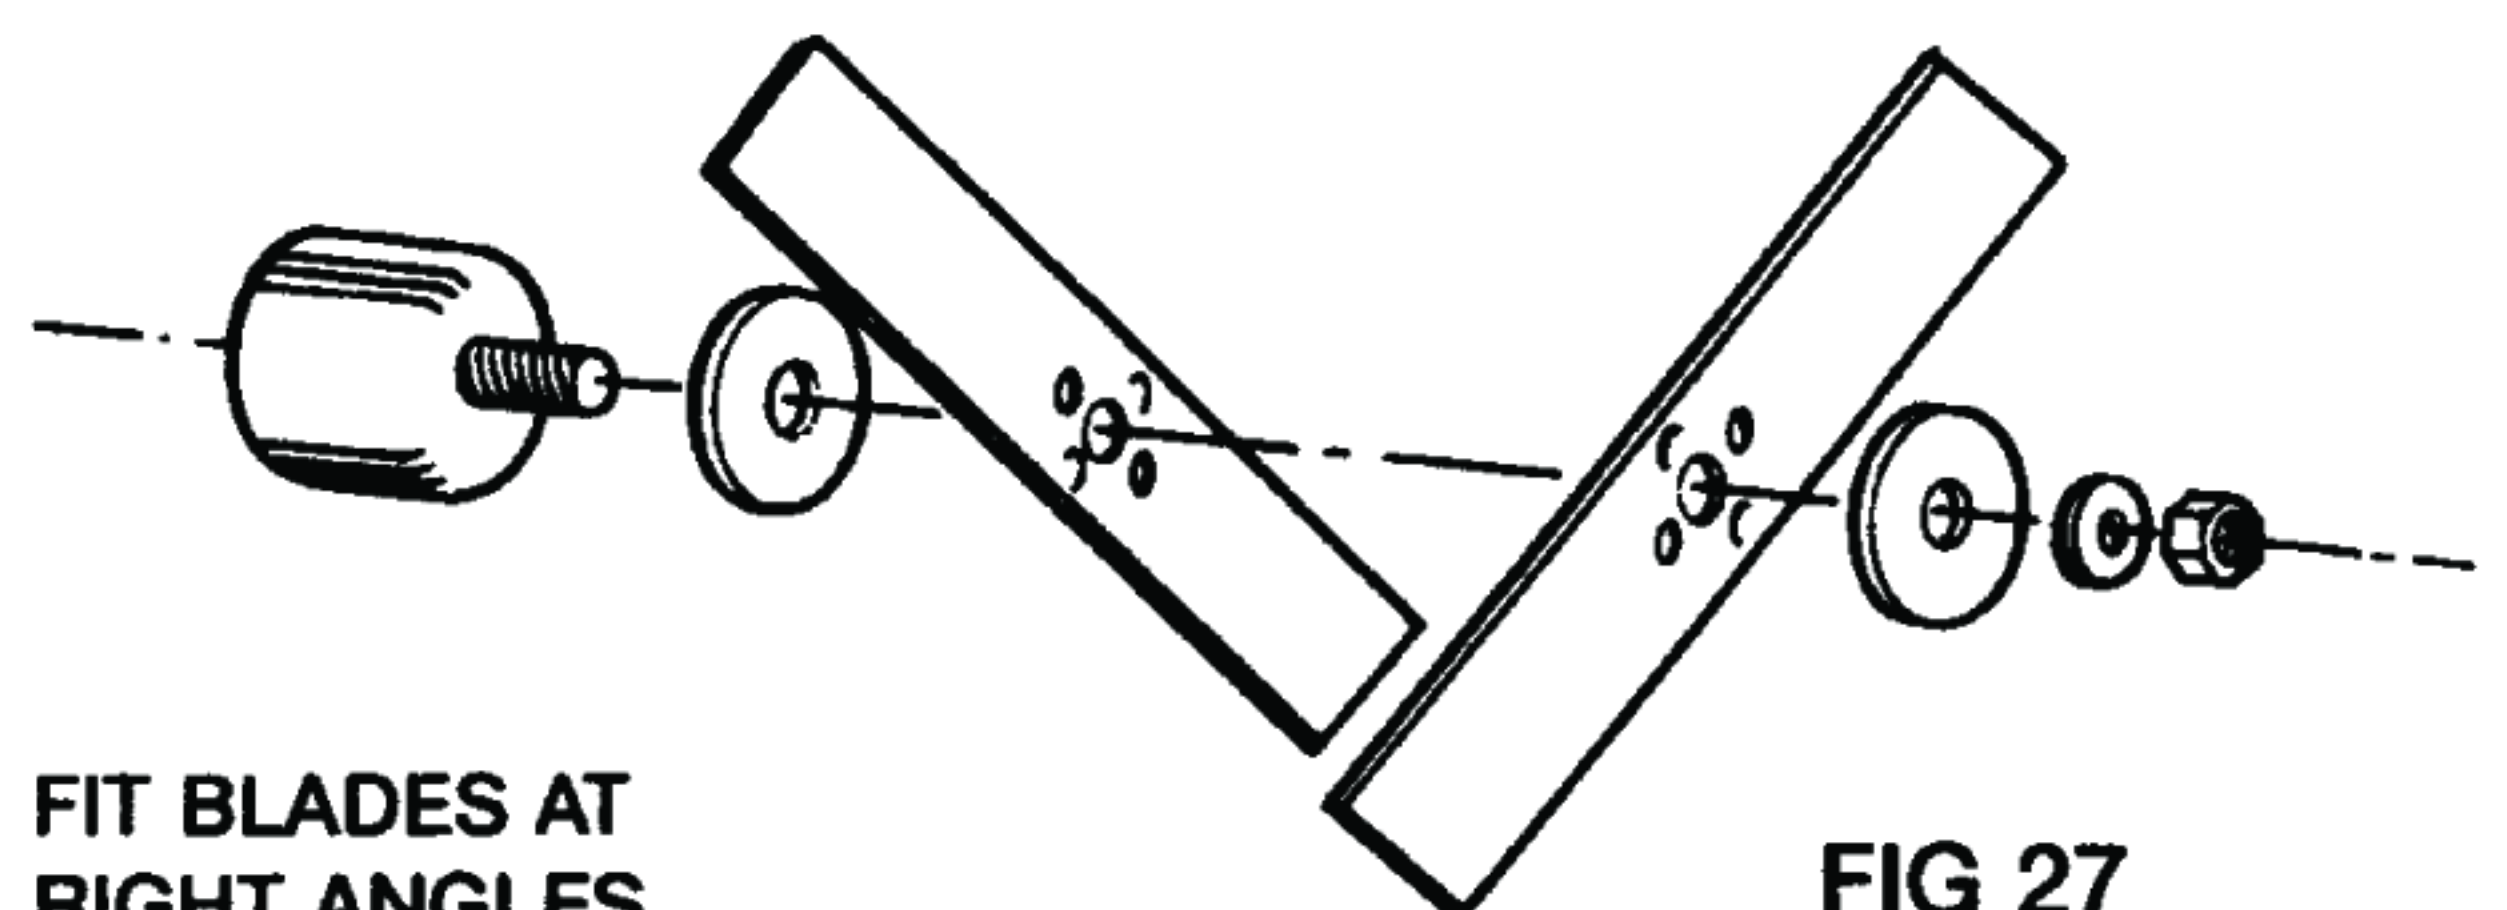

FIG 27
4. Remove one small and one large washer and two blades (Fig 27). Before installing blade and washers, clean all grit and grease. Assemble these parts clean and dry. Fit new blades with spigots of one blade interlocking with holes on opposite blade and nut. Tighten nut to 15-20 ft. lbs. (20-27Nm) or hand tight with 8" (200mm) or longer spanner or use impact wrench.